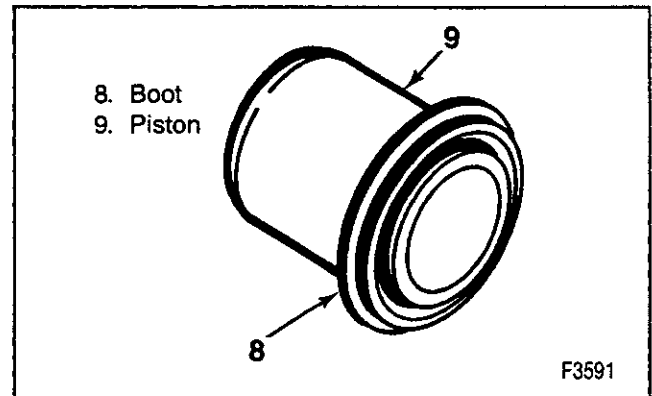

Figure 27—Installing the Boot on the Piston
2. Piston seal (10).
3. Boot (8) on piston (9) (figure 27).
4. Piston (9) and boot into caliper bore.
- B. Seat boot in housing using J 36474, J 36475, or J 38453 (figure 27).
5. Bleeder valve (11).